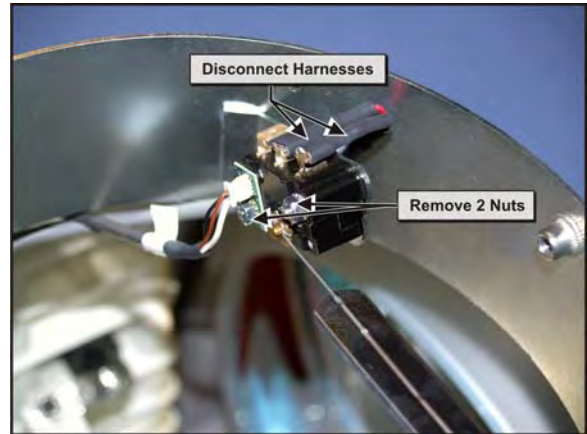

Figure 5-67 Exhaust Duct Vane Switch
3. Disconnect the two harnesses. (**Figure 5-67**)
4. Remove the two nuts (5.5mm) securing the vane switch to the mounting bracket. (**Figure 5-67**)